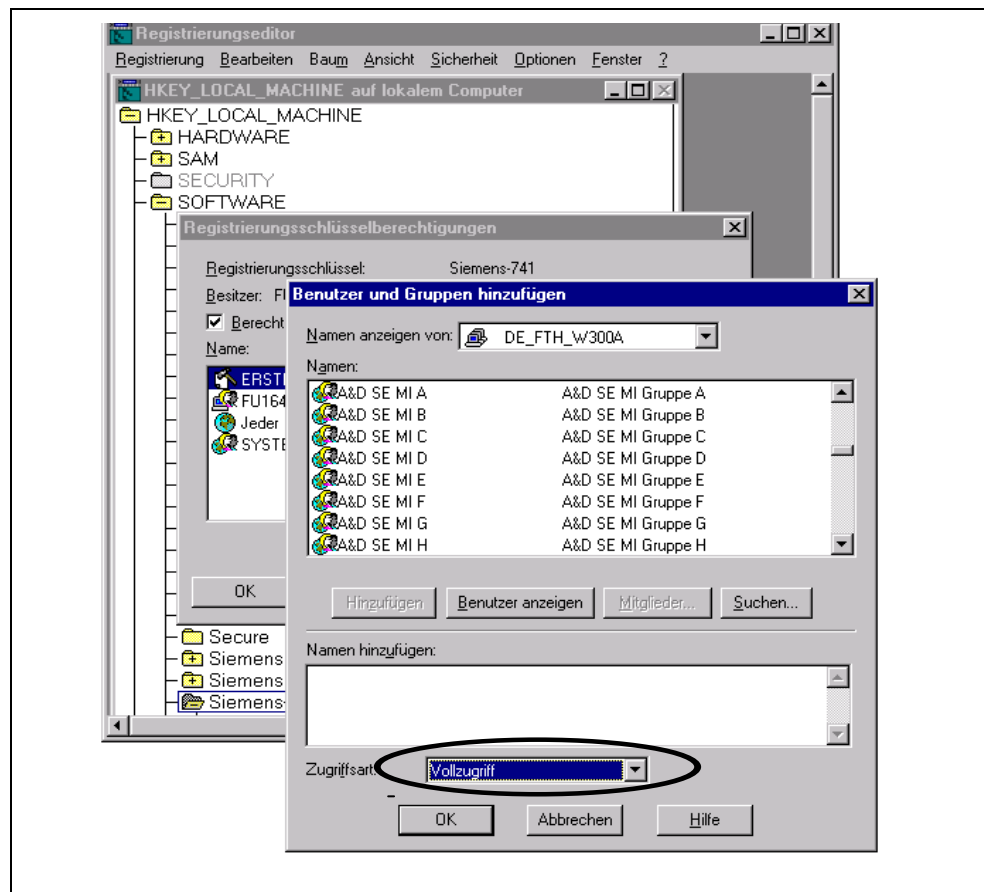

Figure 2-13 "Benutzer und Gruppen hinzufügen" screen
4. Click the "Hinzufügen..." button. In the screen which appears, change "Zugriffsart" to "Vollzugriff" (see figure 2-13). Then close all screens with OK.